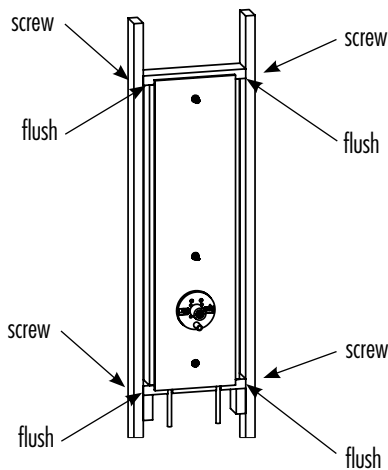

figure 13
10. Place the Plumber's Upgrade into position. Use a level to make sure the lines on the studs and the line on the cement board are still aligned. The 2 x 4's on the Plumber's Upgrade should be flush with the existing wall studs (fig. 13).
12. Remove the panels and screw the Plumber's Upgrade to the studs at the top and bottom (fig. 13).